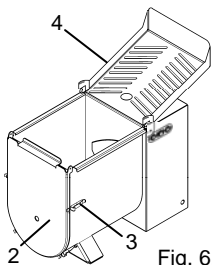

Fig. 6.4.2
- Once the blade has been mounted lower the front cover "2" Fig. 6.4.2 and secure in place by closing the buckle clips "3" Fig. 6.4.2
- Lower the top grille "4" Fig. 6.4.2